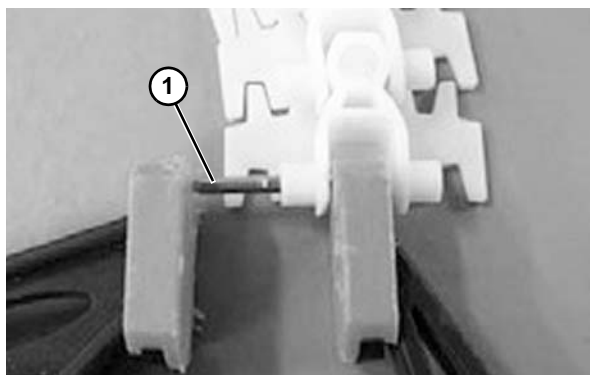

Figure 48
2. Insert the steel pin (**Figure 48, item 1**) halfway, using a pair of pliers. Always use new steel pins and plastic pivots when joining chain ends.